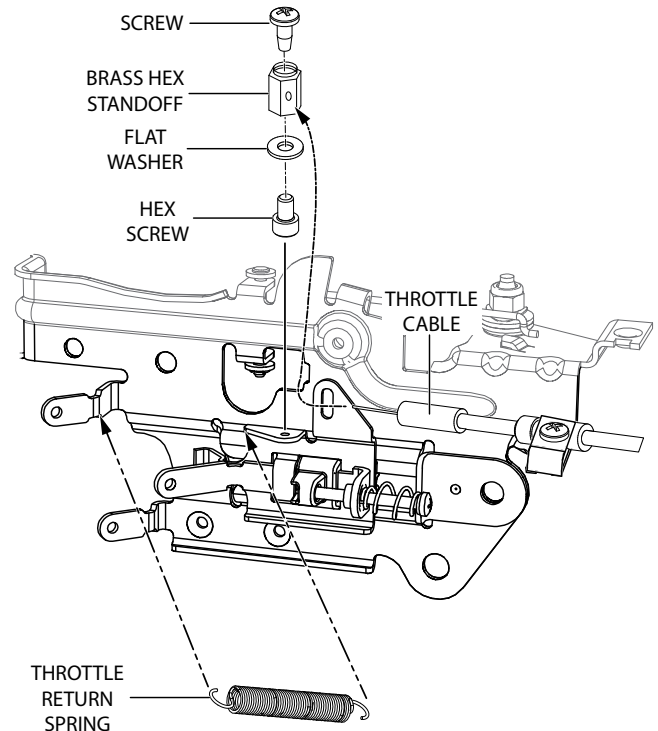

Figure 6. Throttle Cable Removal (Brass Hex Standoff)
2. Using a phillips head screwdriver, remove the throttle cable wire attached to the brass hex standoff (Figure 6).